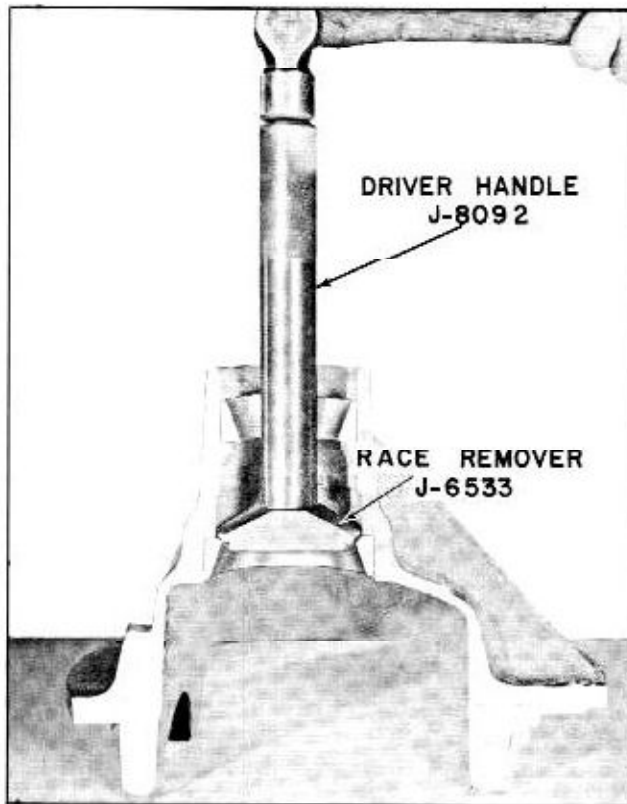

Fig. 6-23 Removing Rear Bearing Outer Race
8. Press rear bearing outer race from carrier using Tool J 6533. (Fig. 6-23)